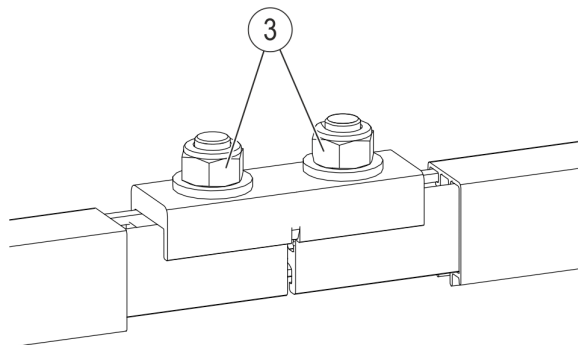

Fig. 79: Tighten nuts M10/M12
- Mount the connector (Pos.1) with notch cable lugs (Pos. 5), as described in Section 6.4.3.4, with the prescribed torque (SW 13, torque wrench **10 Nm** for stainless steel **nuts**, **12 Nm** for galvanized nuts) (see Fig. 79).